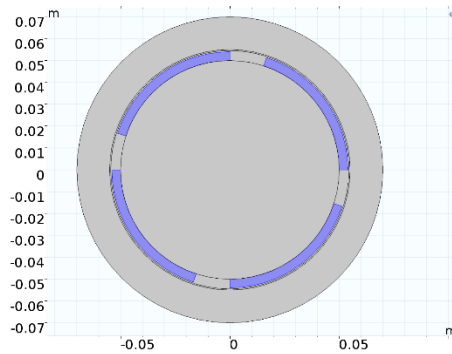

Figure 4: Motor model in COMSOL
- c) The FEA model was created in COMSOL environment. The geometry is presented in Fig. 4.